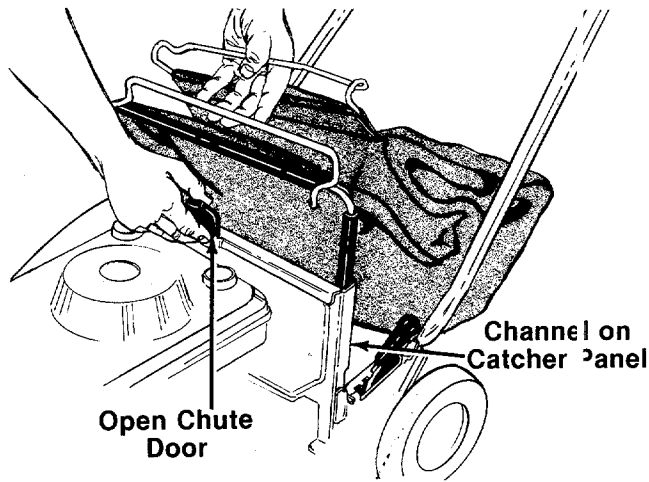

FIGURE 24.
1. Hold the chute door on the catcher panel open as shown in figure 24.